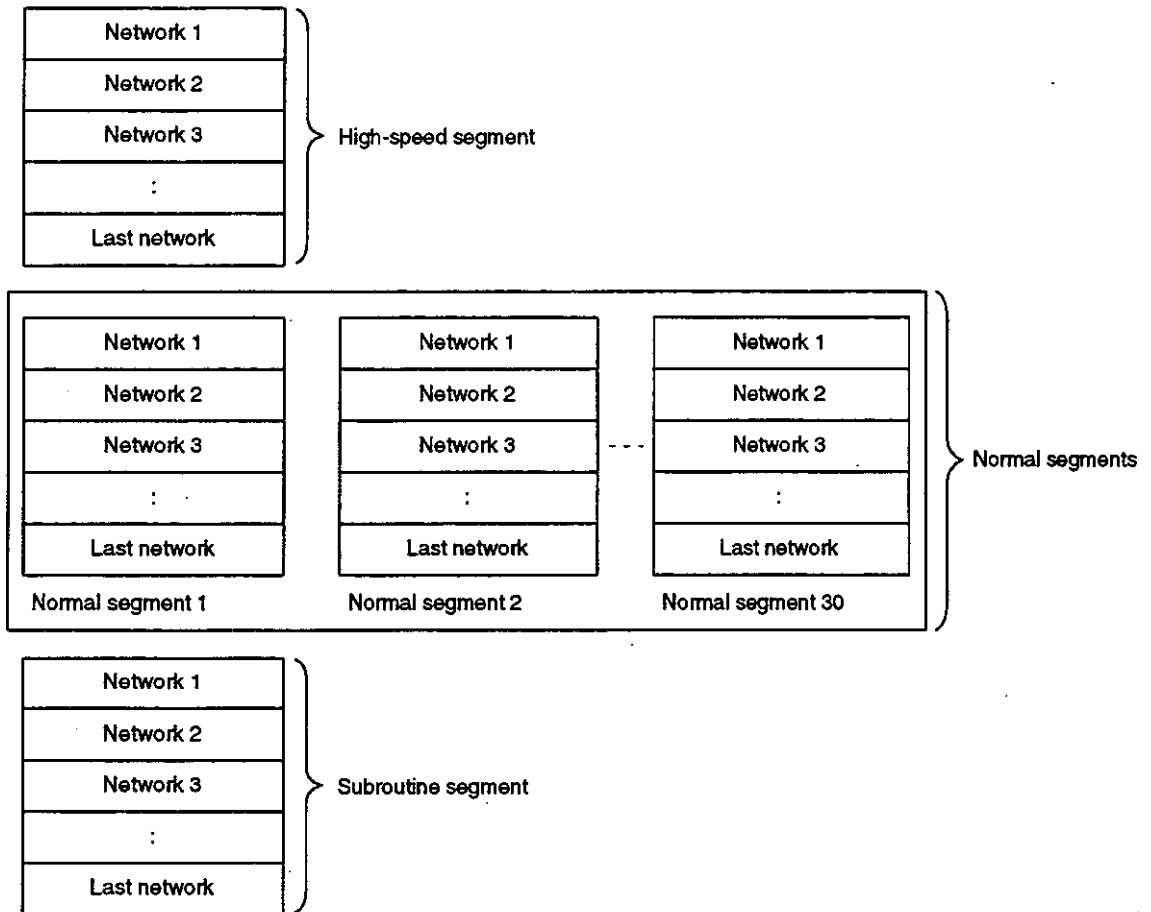

Figure 2.2 Segment and Network Numbers
- 4) As shown in *Figure 2.2*, networks are automatically numbered in order from the beginning of each segment. If the high-speed scan is not used, the user program configuration will consist of only the normal segments, or only the normal and subroutine segments.